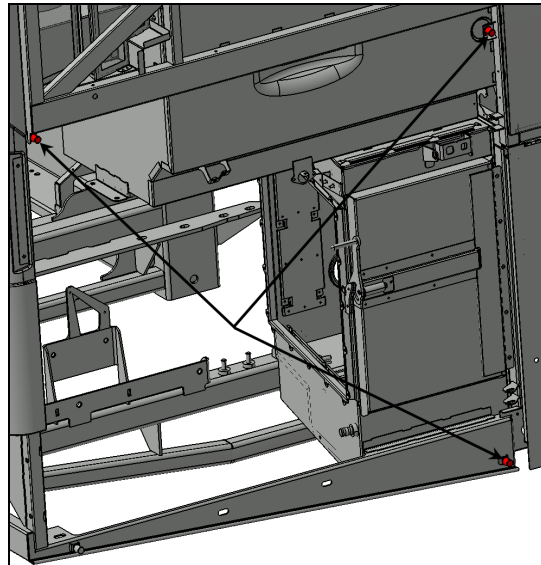
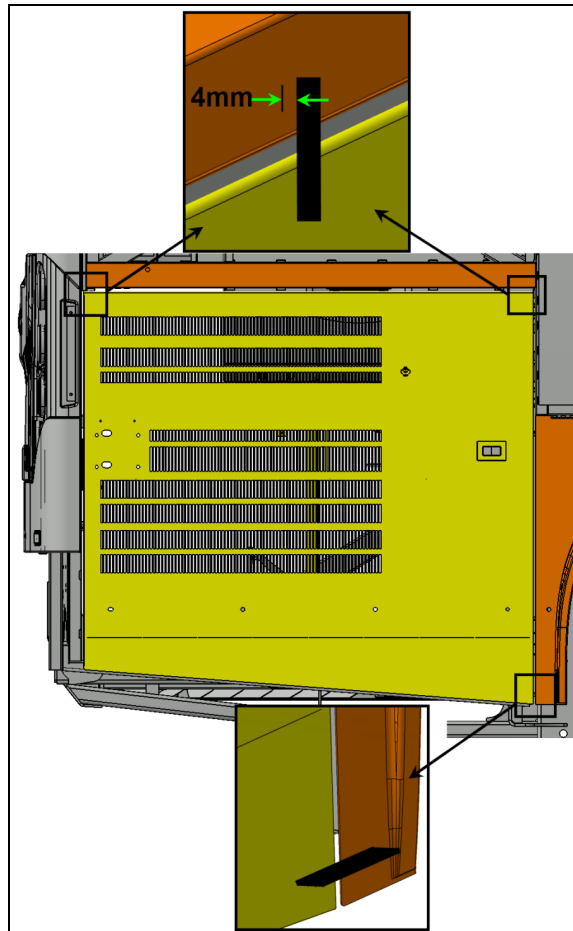

FIGURE 137
FIGURE 138
10. Screw in or out the two upper stoppers so that the upper part of the door exceeds the horizontal member by 5/32" to 3/16" (4mm to 5mm) (see FIGURE 137 & FIGURE 138).